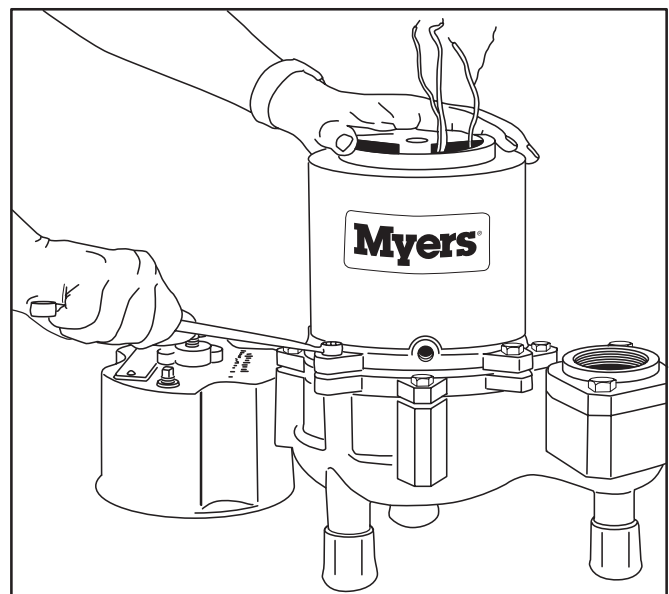

Fig. 15
2. Remove bolts from motor housing only. Do not remove bolts that hold motor plate to volute case. Fig. 15